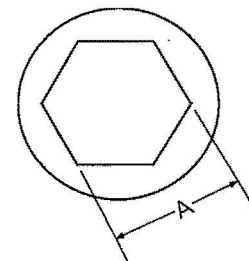

Figure 4. Across-flats dimension (A) on lug screws.
1. Check all cable-to-lug connections. Tighten each lug screw to the torque range specified in Table 3 for the "across-flats" dimension of the screw, as shown in Fig 4.